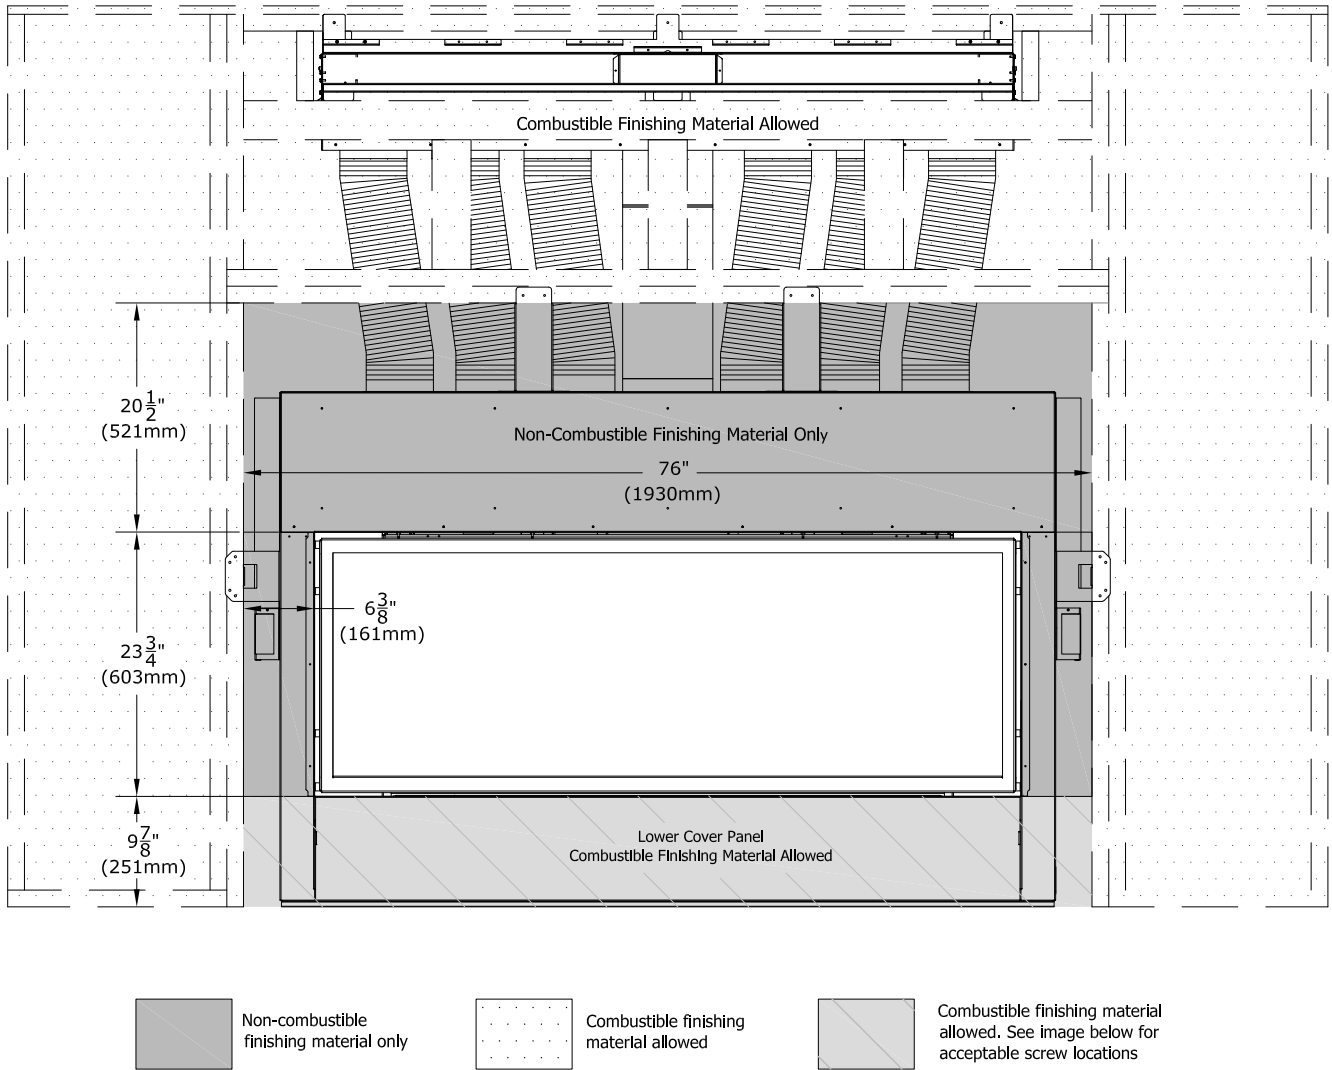

Figure 3.2 - Nordik 60TL Minimum Non-Combustible Finishing Dimensions
- Figure 3.7 shows installation of combustible wall finish up to 1" thick for the Nordik 60TL. This combustible material goes on top of any required non-combustible materials as required in Figure 3.2.
- Figure 3.1 (Nordik 48TL) and Figure 3.2 (Nordik 60TL) show the Non-Combustible Finishing Zone for the minimum requirement of noncombustible finishing material.